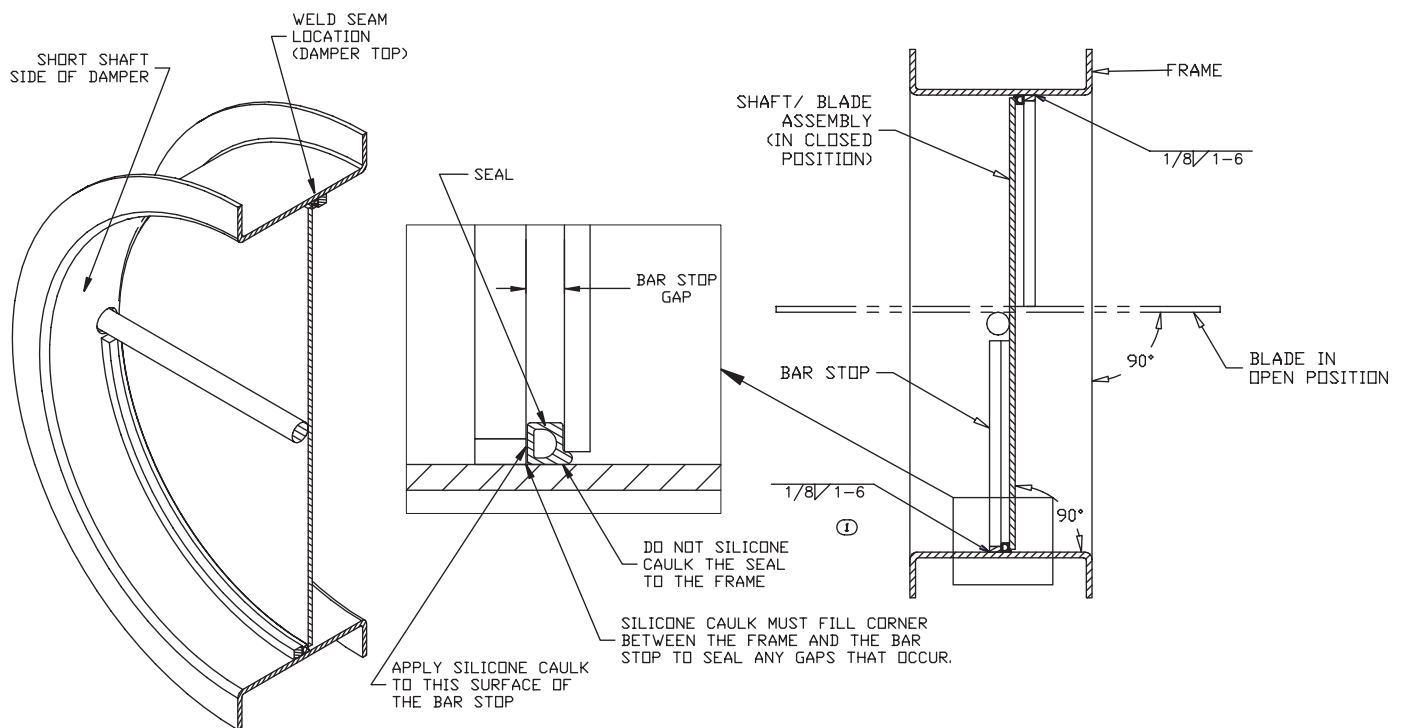

Figure 1
- 3) Replacement seal is either approximately square or “D” shaped. The flat surface of seal is to be oriented against the rolled bar stop and is to be located along perimeter. See Figure 1.